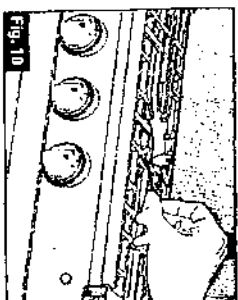

Fig. 10
4. IMMEDIATELY strike and place a lit, long wooden match or a butane lighter (with extension) through the spaces in the grate near the ports of the burner to light the burner. Repeat steps 3 & 4 to light all burners (Fig. 10)